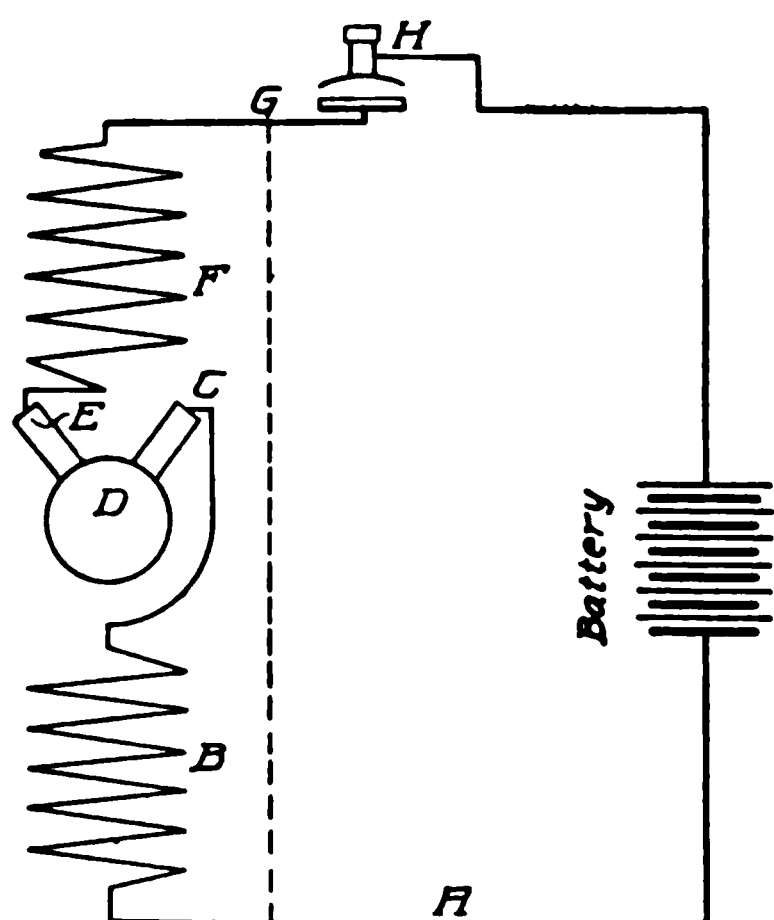
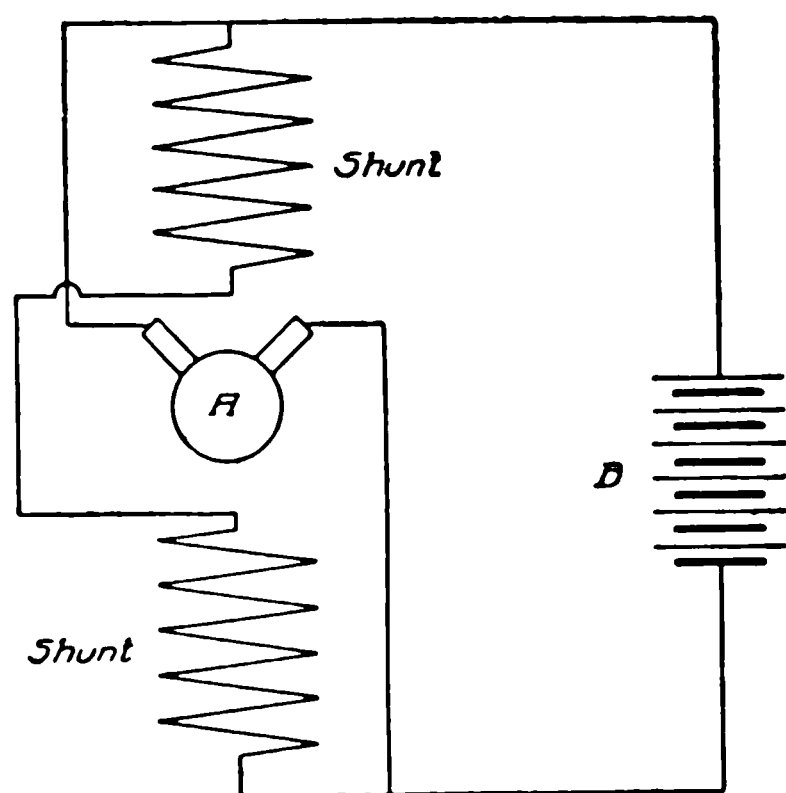

Fig. 276. Starting-Motor Circuit for Dyneto System
Fig. 277. Generator Circuit for Dyneto System
**Starting Motor.** This starting motor is of the standard series-wound type of the same characteristics of design as the generator. In Fig. 276 is shown the wiring diagram of the starting circuit and illustrates plainly the relation of the series fields *B* and *F* to the armature *D* and the brushes *E* and *C*. *H* is the starting switch and *A* and *G* are the cables of a two-wire starting system. Compare Fig. 276 with Fig. 277, which shows the shunt windings of the generator and their relation to the armature and battery. In Fig. 276 the dotted line from *G* to *A* illustrates a supposed short-circuit caused by chafing, or abrasion, of the insulation of the wires.